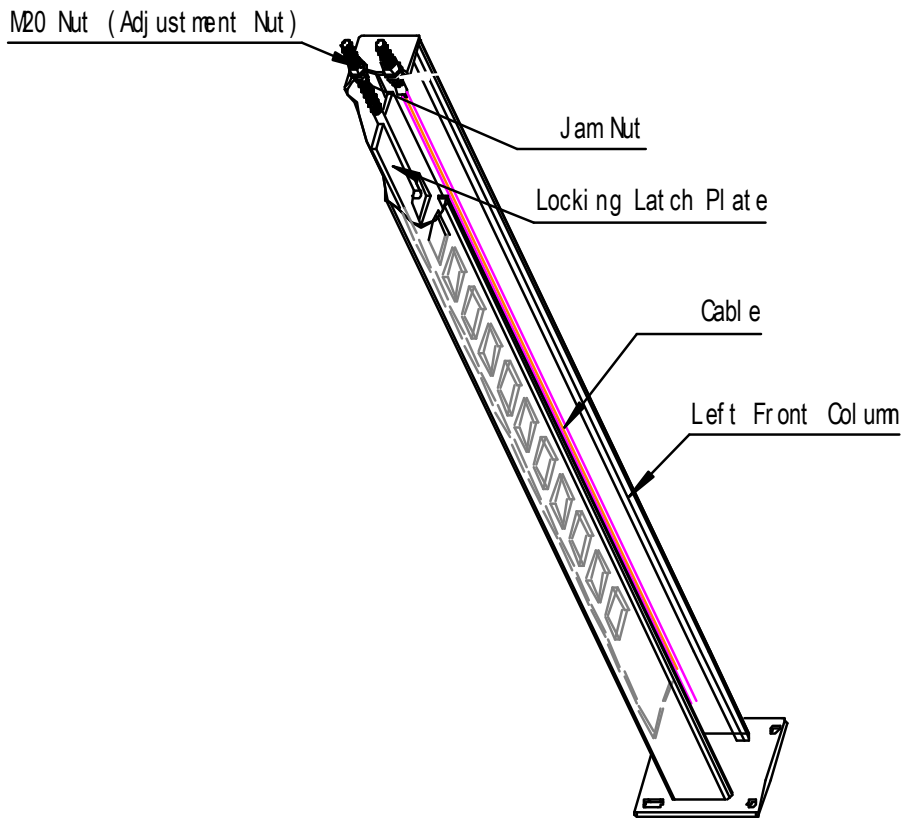

Fig.4
- **Leveling preset:** 4 adjustment nuts at top plates of the columns can be adjusted to level the runways. (Fig. 4).
- back of the column (Fig.4). The latch plate should be oriented toward the back of the column from the centre line of the threaded stud.